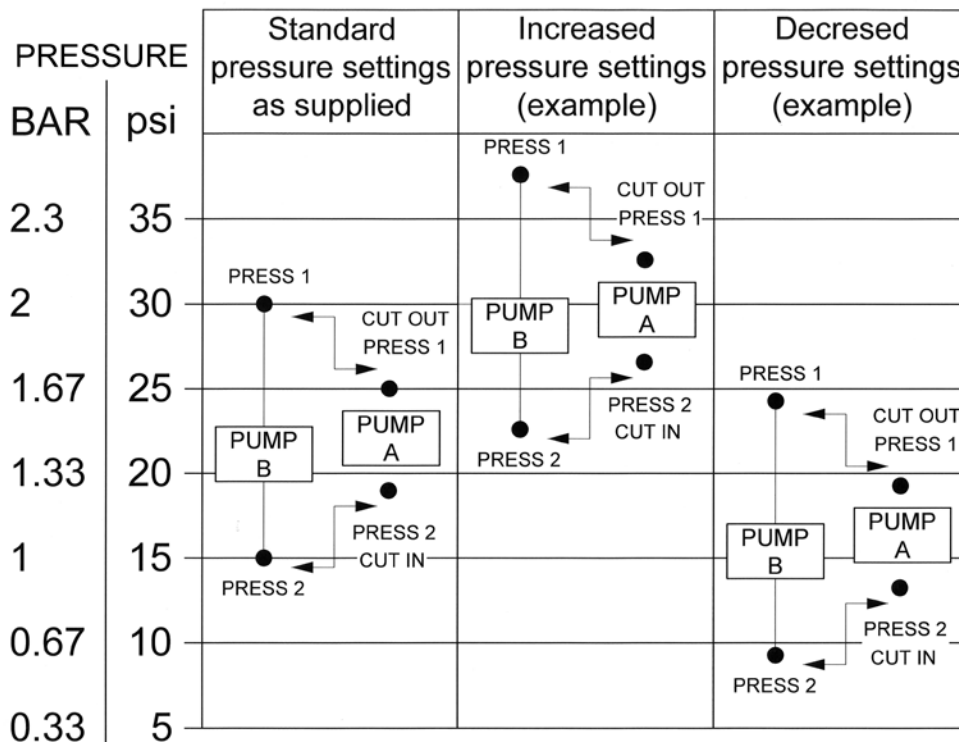

FIG 1
3. Open one outlet slightly, allowing water to escape gradually. Measure the pressure PRESS2 in the accumulator tank just before PUMP A cuts in. The pressure should rise to PRESS1 before PUMP A cuts out. If the pump does not cut out reduce the flow of water from the outlet until it does. See FIGURE 1.
4. Using adjusting screw (D) on the pressure switch, raise or lower the cut out pressure of PUMP A as required. Start pump as in 3. above. Measure PRESS1. Repeat this sequence until PRESS1 reaches the cut-out pressure you require.
5. Using adjusting screw (R) on pressure switch, increase or decrease the pressure differential between cut in PRESS2 and cut out PRESS1. Start the pump as in 3. above. Measure PRESS2. Repeat this sequence until PRESS1 and PRESS2 are set at the pressures you require.
6. Reconnect **PUMP B**. Disconnect **PUMP A**. Repeat stages 2 to 5, to obtain your required cut in and cut out pressures for PUMP B. The new pressure settings for PUMP B must remain **in the same relation** to those of PUMP A as shown in FIGURE 1. For reliable operation the difference between the two cut in pressures should not be less than 3psi (0.2bar).